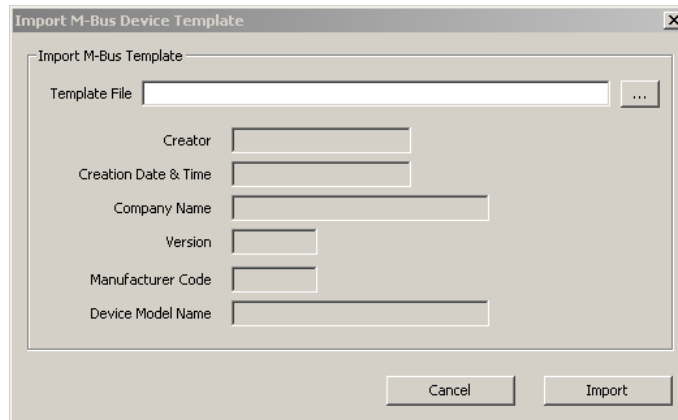

Figure 135 Import M-Bus Device Template dialog.
2. This opens the **Import M-Bus Device Template** dialog shown in Figure 135.